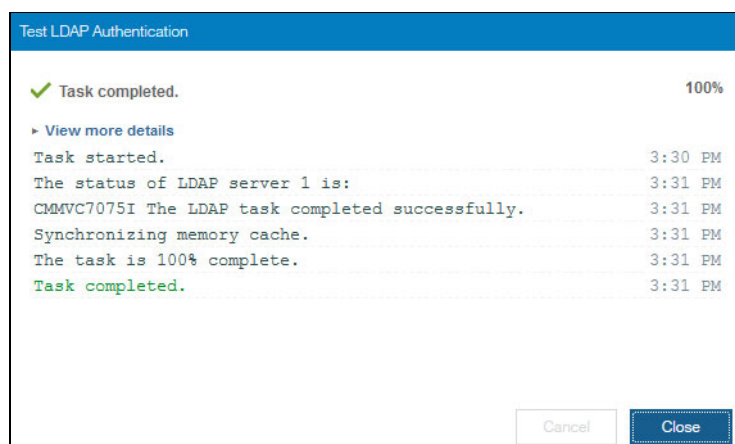

Figure 7-31 Test LDAP Authentication complete
4. Click **Test** to receive the results of the LDAP authentication test, as shown in Figure 7-31.